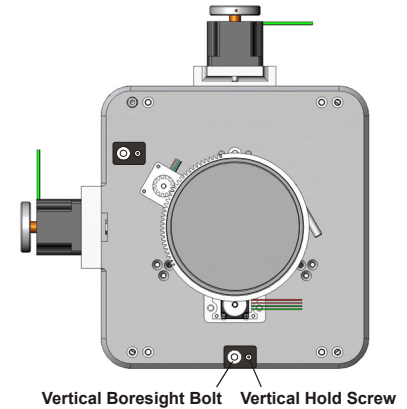

Figure 3-42 Vertical Boresight
1. Loosen the **Vertical Hold Screw**. See **Figure 3-42**.
8. Adjust the Vertical Hold Screw to lock the lens mount in place. Check boresight again. See **Figure 3-42**.